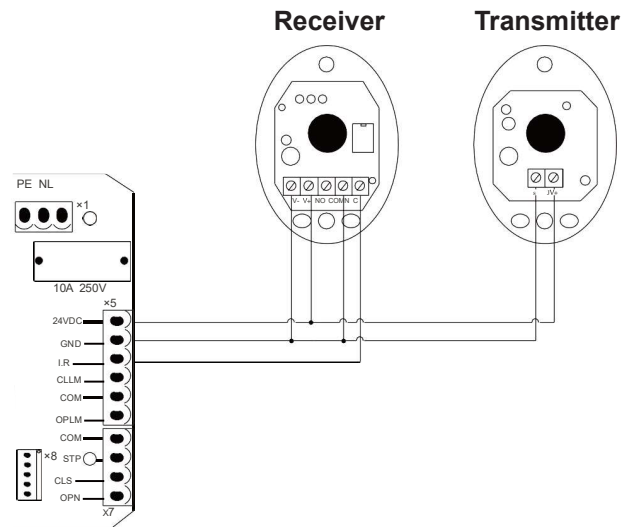

Figure 22
2. Connect the sensors' wiring to the control board according to Figure 22. The sensors' **V+** pins should be connected to the **24V** pin on the board; their **V-** pins and the receiver's **COM** pin should all be connected to the **GND** pin; and the receiver's **NC** pin should be connected to the **IR** pin.
3. Install the infrared sensor set (Z) near your gate at the positions prepared for them. If possible, cover or otherwise protect them from direct sunlight.